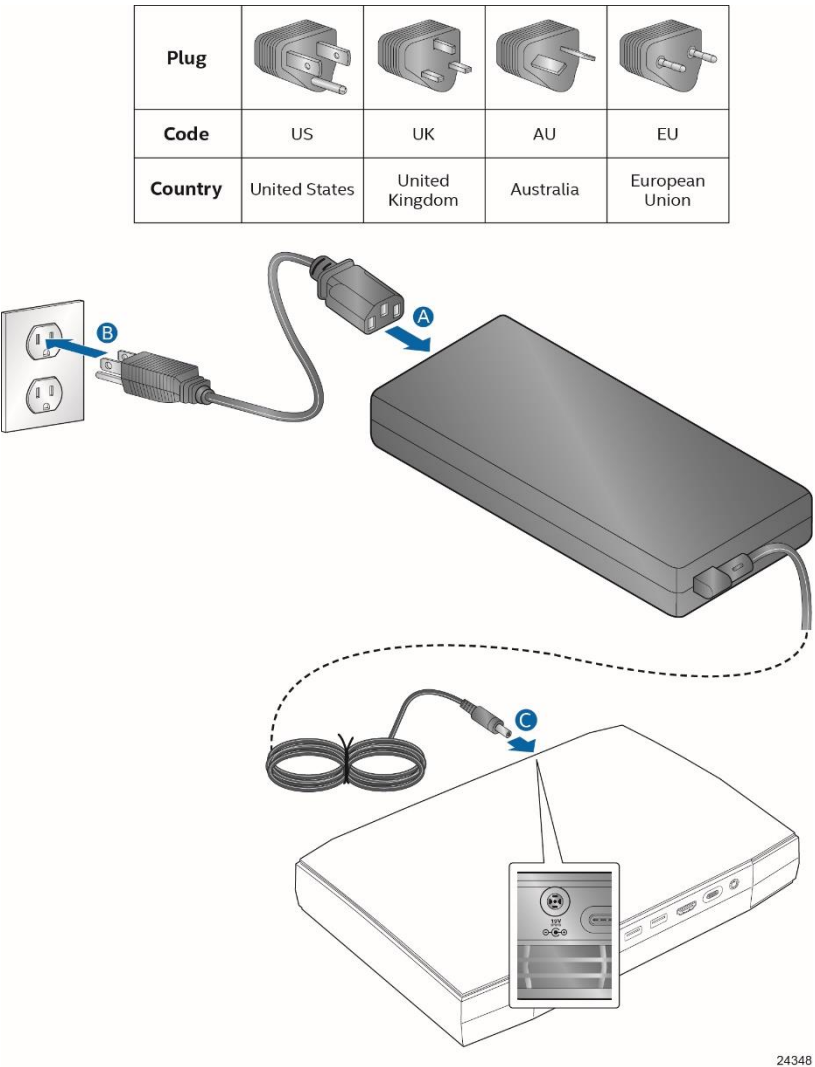

Figure 16. Power Adapter and Plugs Included with the Kit
The NUC8i7HN uses an AC to DC power adapter with a six foot attached cable with a barrel connector. Figure 16 shows the power adapter and plugs that may be included with the kit.
- **External Power Supply** – the kit can be powered through a 19.5v DC connector on the back panel (see Figure 16, C). The back panel DC connector is compatible with a 7.4mm/OD (outer diameter) and 5.0 mm/ID (inner diameter) plug, where the inner 0.8mm contact is +19.5 ($\pm 10\%$) V DC and the shell is GND. The maximum current rating is 11.8 A.